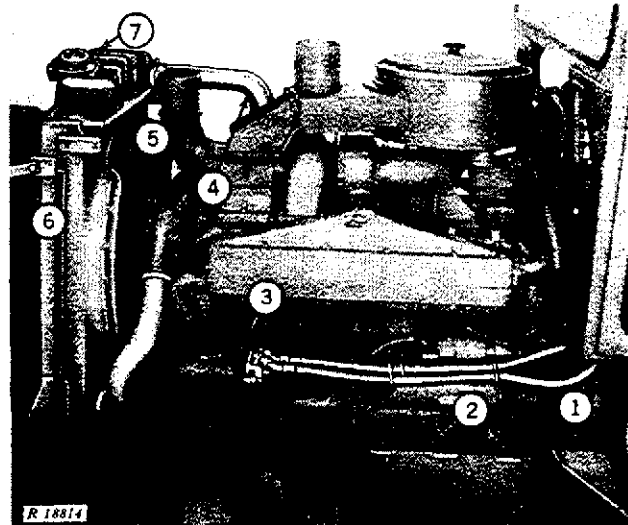

Fig. 10-Left-Hand Side Removal Steps
1. Remove fuel tanks (Fig. 10), following instructions given at the top of the right-hand column of previous page.